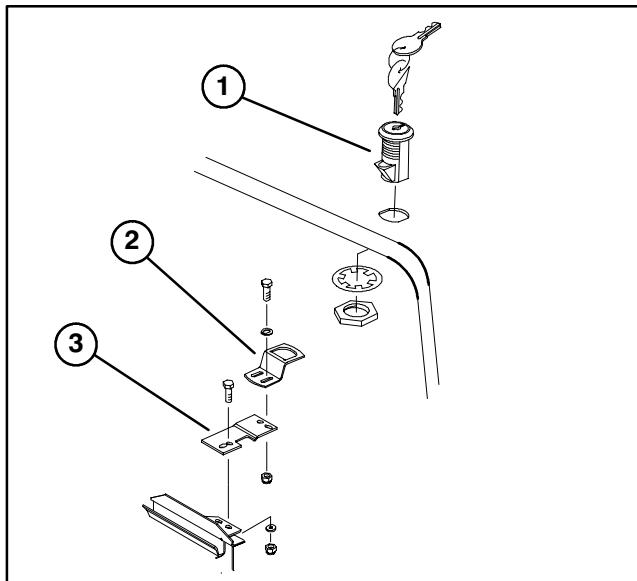

Figure 3
3. Mount locking latch to hood with lock washer and nut. Position switch with latch toward front of machine (Fig. 3).
4. Loosely mount latch strap to radiator support with (2) 1/4-20 x 3/4" lg. capscrews, flat washers and locknuts (Fig. 3).
5. Loosely mount latch bracket to latch strap with (2) 1/4-20 x 3/4" lg. capscrews, flat washers and locknuts (Fig. 3).